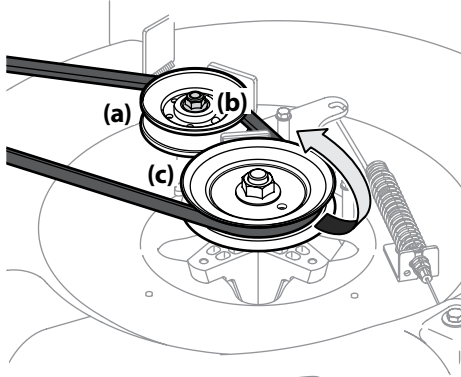

Figure 4-15
- Loosen the idler pulley (24" decks only) (a) by loosening the flange lock nut (b) that secures it, enough to allow clearance for the belt to move past it and off. Remove the belt by working it off of the deck drive pulley (c) and idler pulley (a). See Figure 4-15.